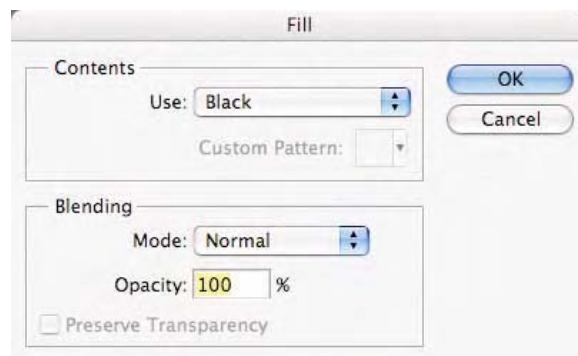

Fig. 9-10-1 The **Fill** command should be configured as seen here.
2. Choose **Edit-Fill** and when the Fill dialog appears select **Use: Black, Blending Mode: Normal, Opacity 100%** as seen in Fig. 9-10-1.